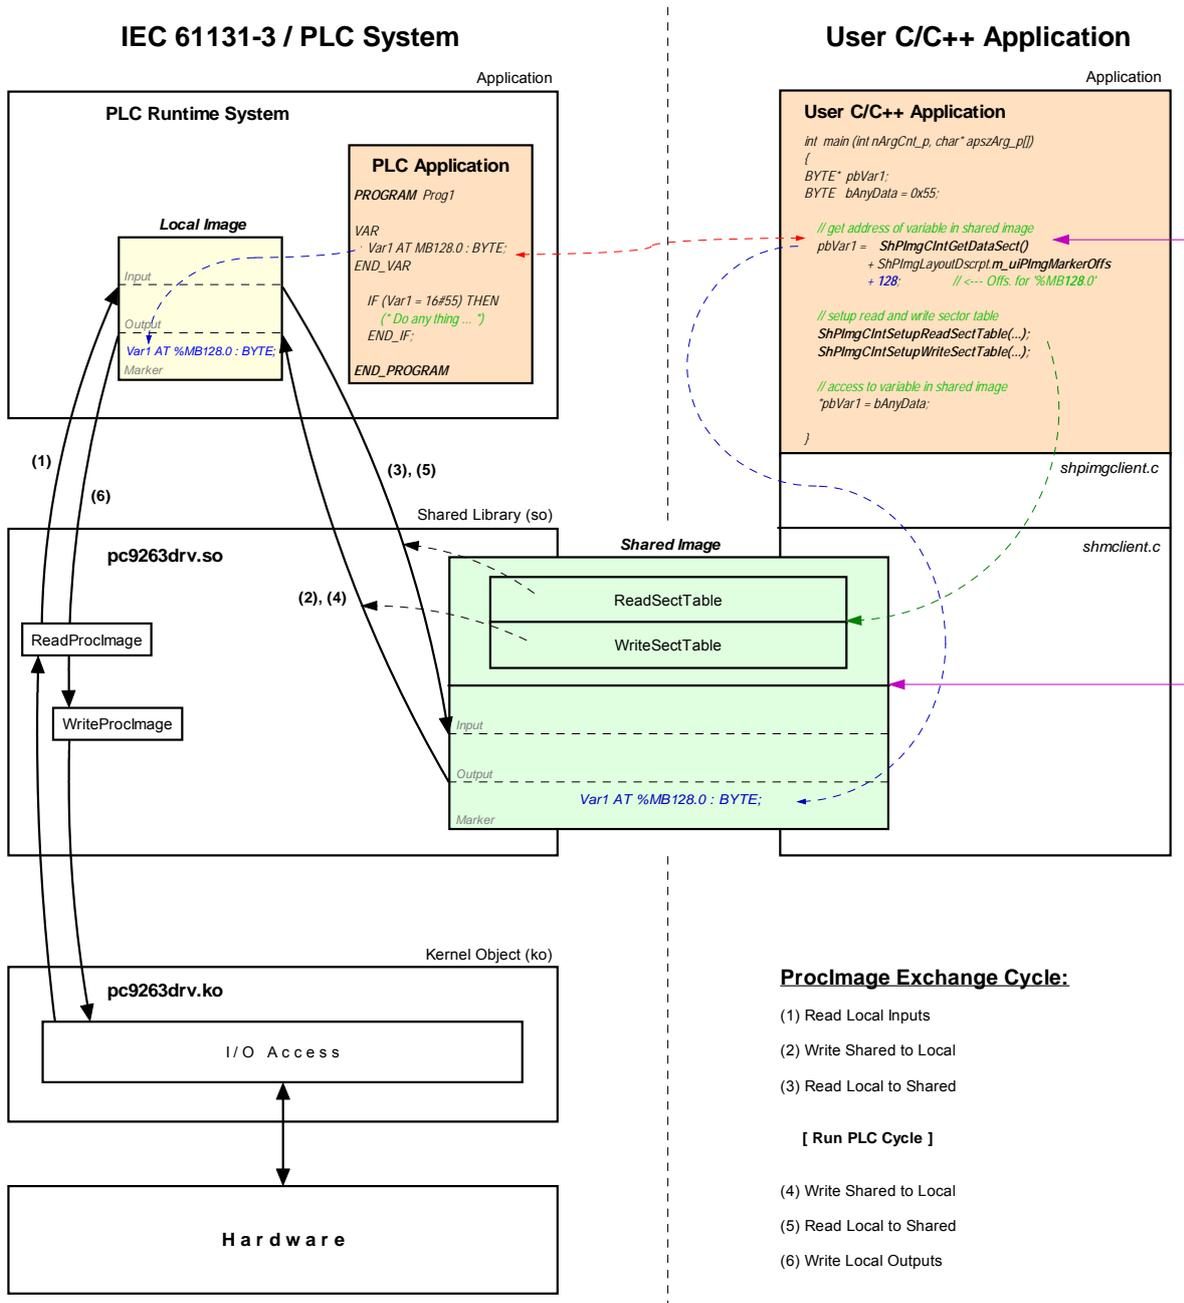

Figure 28: Overview of the shared process image
Not all variables are utilizable via the shared process image within a C/C++ application. Only those directly addressed variables that the PLC program generates within the process image. As shown in Figure 28, two separate process images are used for the data exchange with an external application inside of the PLC runtime system. This is necessary to meet the IEC 61131-3 requirement that the initial PLC process image may not be modified during the entire execution of one PLC program cycle. Thereby, the PLC program always operates with the internal process image that is locally generated within the PLC runtime system ("Local Image" in Figure 28). This is integrated within the PLC runtime system and is protected against direct accesses from the outside. On the contrary, the user-specific, external C/C++ application always uses the shared process image ("Shared Image" in Figure 28). This separation of two process images enables isolation between accesses to the PLC program and the external application. Those two in parallel and independently running processes now must only be synchronized for a short period of time to copy the process data.
An activation of option **"Share PLC process image"** within the PLC configuration enables data exchange with external applications (see section 7.4.1). Alternatively, entry *"EnableSharing="* can directly be set within section *"[Proclmg]"* of the configuration file *"/home/plc/bin/plccore-9263.cfg"* (see section 7.4.3). The appropriate configuration setting is evaluated upon start of the PLC firmware. By activating option **"Share PLC process image"**, the PLC firmware creates a second process image as Shared Memory ("Shared Image" in Figure 28). Its task is to exchange data with external applications. Hereby, the PLC firmware functions as Server and the external, user-specific C/C++ application functions as Client.
Sections to read and write may comprise all sections of the entire process image – input, output as well as marker sections. This allows for example that a Client application writes data into the input section of the PLC process image and reads data from the output section. Figure 28 shows the sequence of single read and write operations. Prior to the execution of a PLC program cycle, the physical inputs are imported into the local process image of the PLC (1). Afterwards, all sections defined in *WriteSectorTable* are taken over from the shared process image into the local process image (2). By following this sequence, a Client application for example is able to overwrite the value of a physical input. This may be used for simulation purposes as well as for setting input data to constant values (*"Forcen"*). Similarly, prior to writing the process image onto the physical outputs (6), sections defined in *WriteSectorTable* are taken over from the shared process image into the local process image. (4). Thus, a Client application is able to overwrite output information generated by the PLC program.
As illustrated in Figure 28, the user-specific C/C++ application exclusively uses the API (Application Programming Interface) provided by the *shared process image client*. This API is declared in the